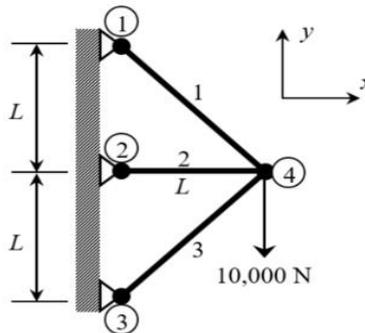

Fig. 4
6. Use the finite element method to solve the plane truss shown in **Fig. 4**. Assume $AE = 10^6 \text{ N}$, $L = 1\text{m}$. Determine the nodal displacements, element forces in each element, and the support reactions. 14M
8. Prepare a detailed estimate of R.C.C. Staircase given in Fig. 4. 14M